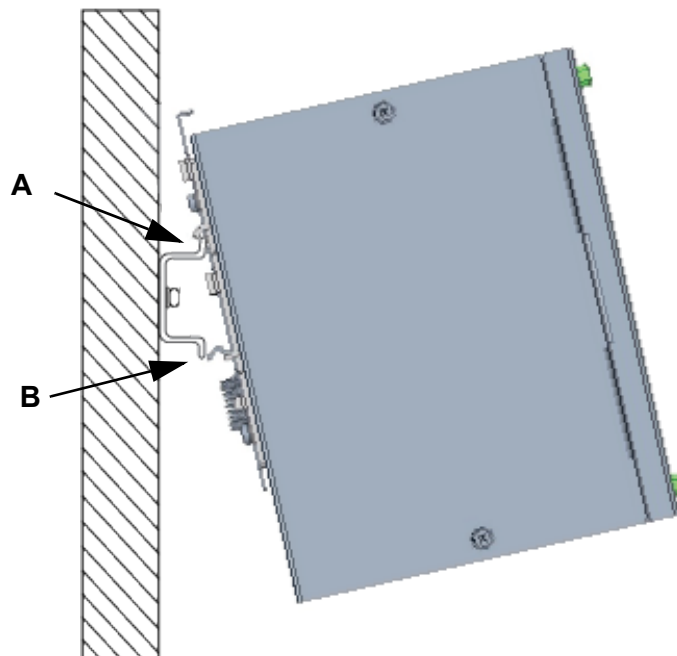

Figure 11. Installing the Power Supply on a DIN Rail
To install the power supply on a DIN rail, place the upper notch on the bracket over the top rail edge (A) and push the lower edge of the power supply until the bracket snaps onto the rail (B). See Figure 11.